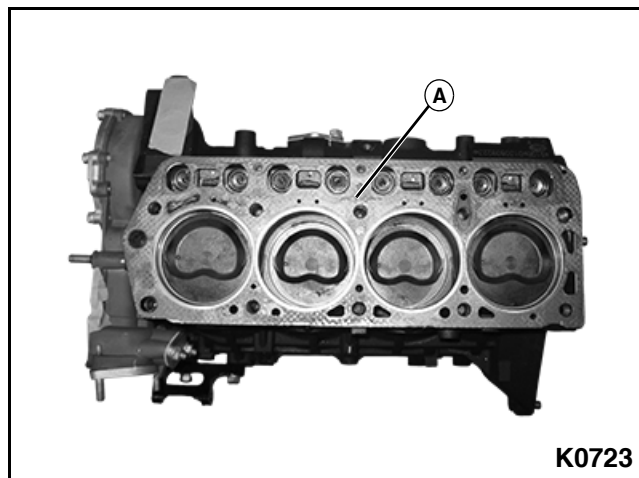

Figure 3-119
10. Clean old head gasket from cylinder block (A). Avoid getting gasket material into lifter bores, water jackets and bolt holes. **See Figure 3-119.**